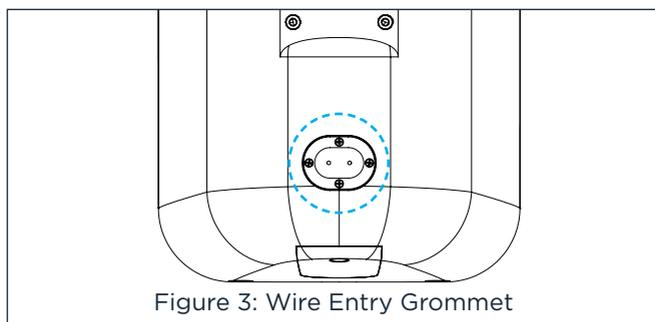

Figure 3: Wire Entry Grommet
5. Feed the speaker wire from the bracket into the wire entry grommet on the back of the speaker, through the wire tunnel and out the opening on the speaker's front panel (see Figure 3).